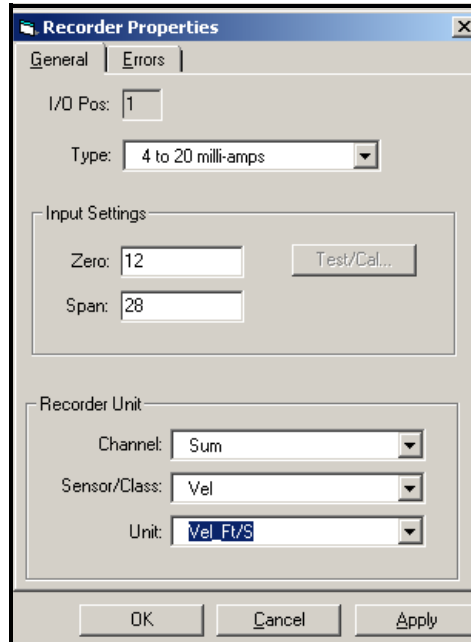

Figure 24: Recorder Properties
4. Double-click on Recorder 1 or Recorder 2 to bring up the Analog Output properties window. Under the General tab, select the desired option from the Type drop-down menu (see Figure 24 on page 26).
5. Set the Zero and the Span to the desired values. In the Recorder Unit section, select the desired output for Channel, Sensor/Class and Unit. Click on Apply. The window should look similar to Figure 24 below.